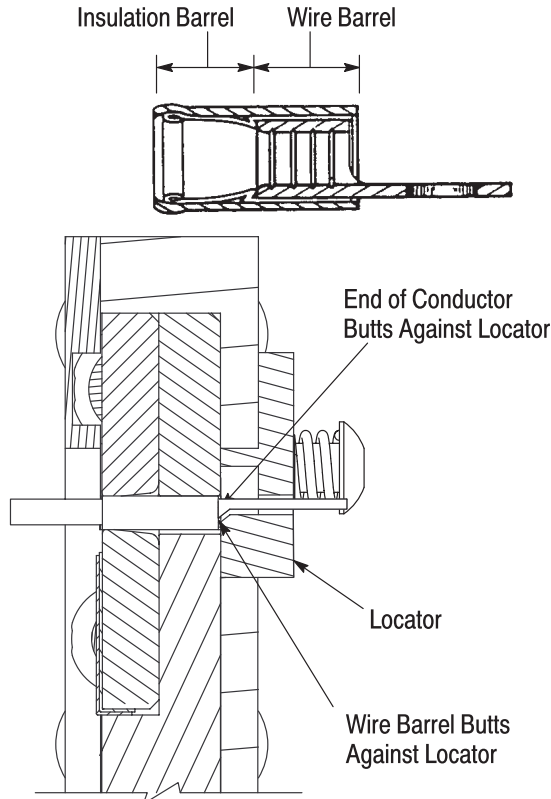

Figure 3
Refer to Figure 3 and the following steps for terminal crimping procedures.
4. Place the terminal into the crimping jaws as shown in Figure 3.
5. Insert the *unstripped* wire into the insulation barrel portion of the terminal. Refer to Figure 3.
- Added springs to artwork in Figures 3 and 7